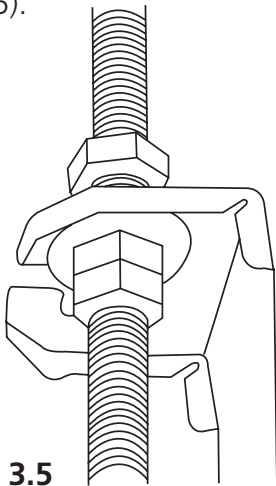

Fig. 3.5
5. Mount the indoor unit. You will need two people to lift and secure it. Insert suspension bolts into the unit's hanging holes. Fasten them using the included washers and nuts (See Fig. 3.5).